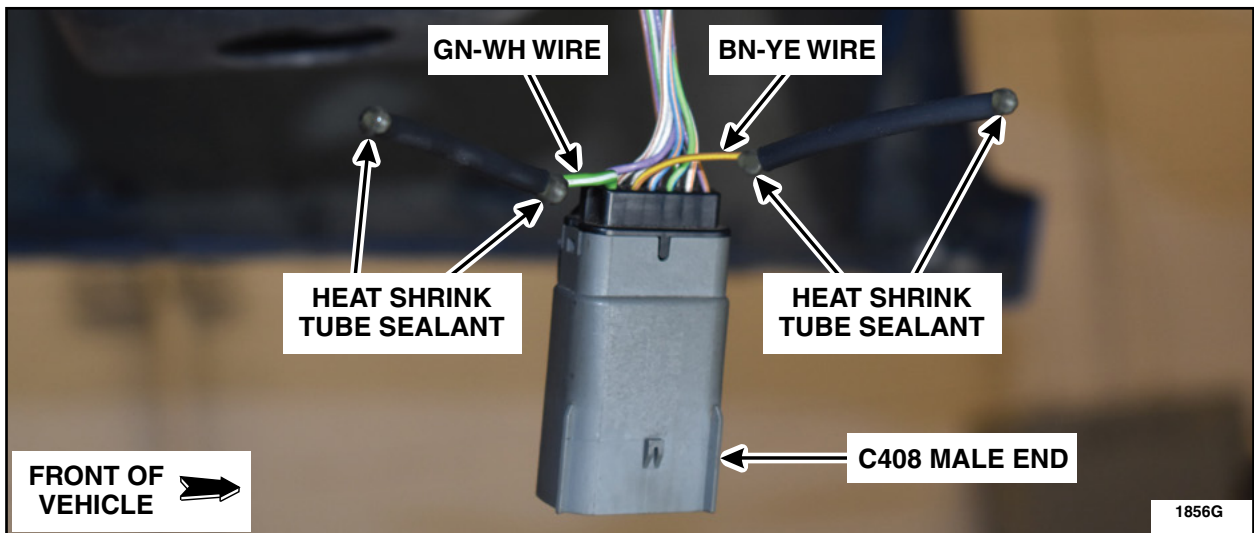

FIGURE 8
11. Install a piece of dual wall heat shrink tube on the GN-WH and BN-YE wires making sure the end of the wire is located in the middle of the tube. Evenly heat up the heat shrink tube until the heat shrink tube sealant bubbles out of both ends. See Figure 8.